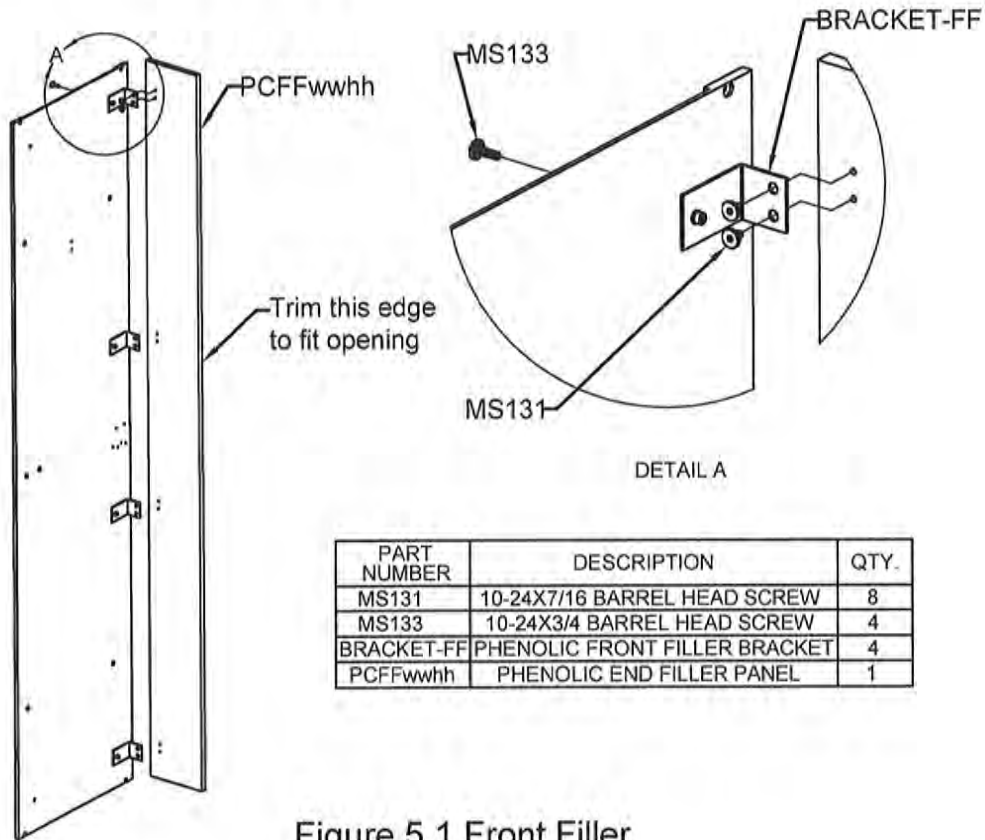

Figure 5.1 Front Filler
- 5.2 Install the front filler brackets on the filler panel using the end filler panel screws provided, see Figure 5.1.
- 6.7 Install the proper filler or corner filler to the first locker using the supplied #10-24 X $\frac{3}{4}$ " screws. Insert them into the top and bottom connecting holes predrilled in the locker bodies. The holes in the filler bracket will align with the holes in the side panel, see Figure 5.1 & 5.2.